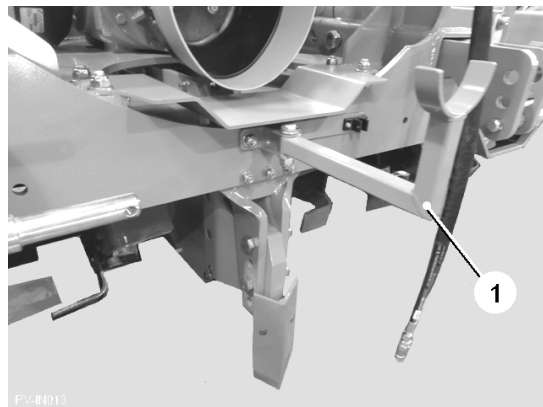

Fig. 5
3. Disconnect the PTO drive shaft from the tractor PTO. Support the drive shaft on the PTO rest (item 1, fig. 5).